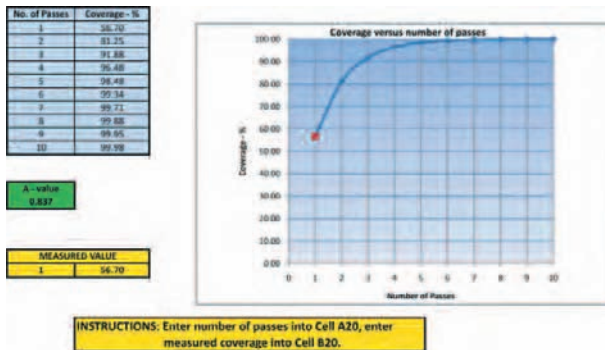

Fig.5 Worksheet of Coverage Predictor program using a Single coverage measurement.
The derived equation (11) can now be used to predict coverage for different values of **n** and thence to construct a coverage curve specific to the single measurement. The Excel-based program for carrying out the procedure is illustrated in fig.5. Different parts of a component will normally show different levels of coverage for a given amount of peening – as discussed later. The ‘single-measurement’ program can be applied to measurements made at different locations on a given component - predicting the passes required to satisfy a specified minimum coverage level. If coverage has been measured after, say, two passes then that is also catered for by the program.
As a hypothetical example, consider just two points on a component. At Point 1 the coverage after one pass is measured as 56.7%, leading to a predicted requirement of 5 passes to achieve 98% - as per fig.5. At point 2 the coverage after one pass is measured as 36%, leading to a predicted requirement of 10 passes to achieve 98%. If 10 identical passes are applied to both points then Point 1 will have received twice the necessary amount of peening. Alternatively, the effective peening rate at Point 2 could have been doubled so that both points need only have 5 passes to achieve ‘full coverage’.